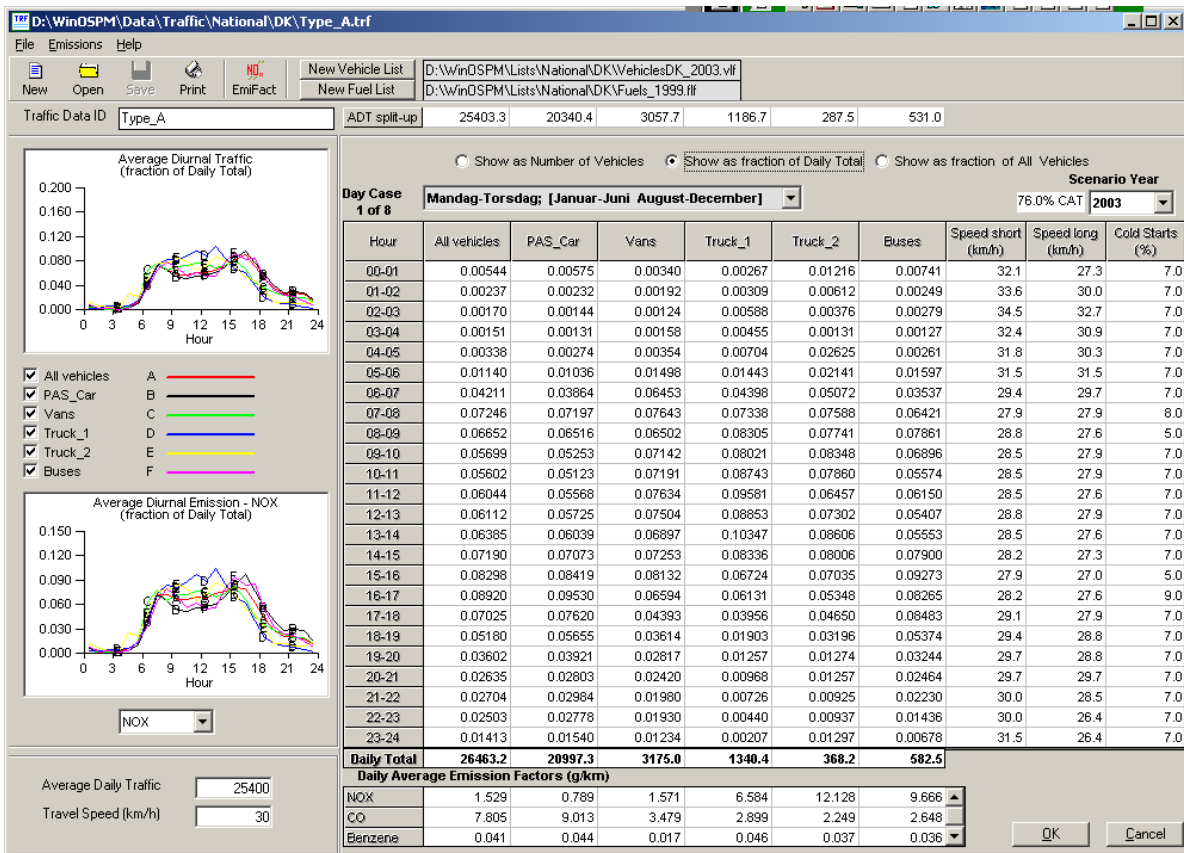

Fig. 7.9 Traffic file displayed in "Mode 2": As fraction of daily total.
- *Mode 2.* As fraction of daily total – the "Show as fraction of Daily Total" option button is pressed (Fig. 7.9).